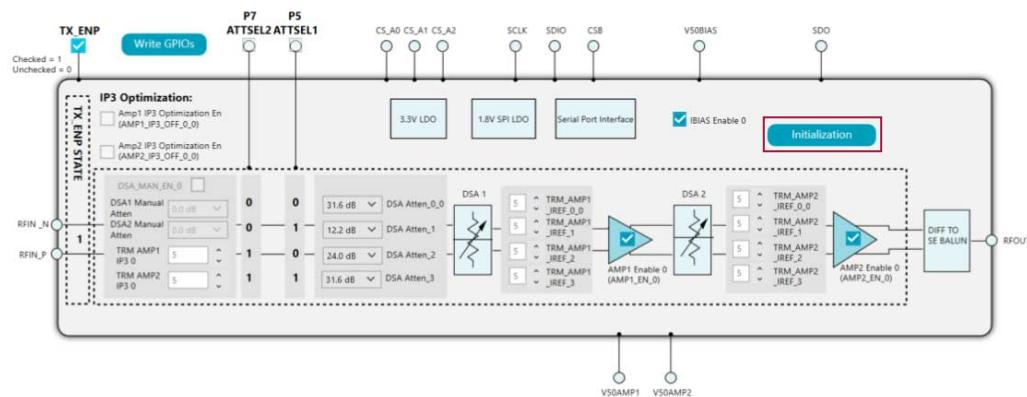

Figure 8. ADL6337-EVALZB Board Level View (After Initialization and TXENP Set to High)
5. Click **Initialization** to view the ADL6337 IC level view (see Figure 8 and Figure 9).